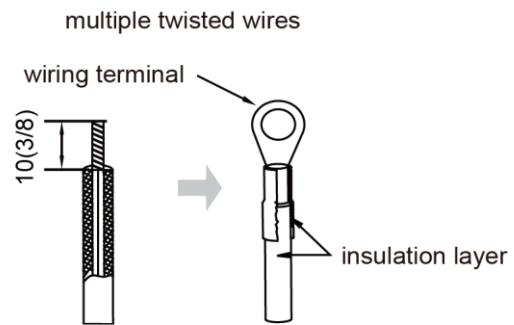

Fig.14
- (2) The connection of stranded wire (as shown in fig.14)